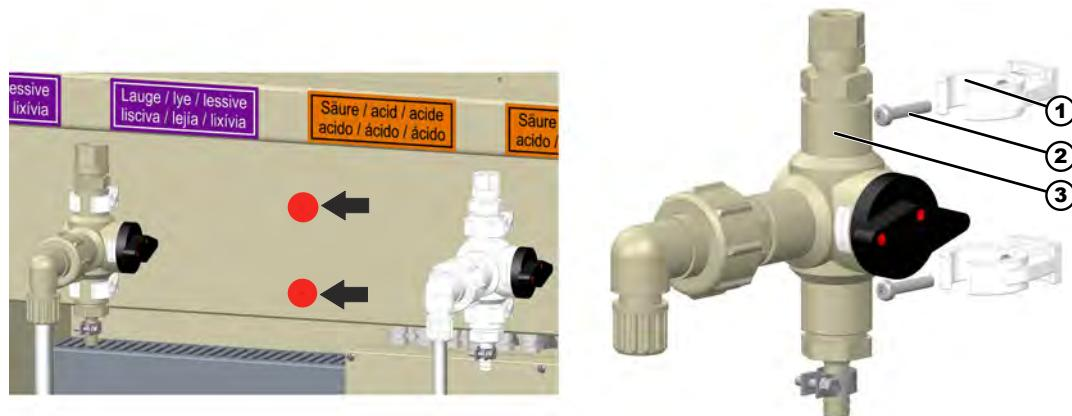

Fig. 11: Assembling the product sampling valve
1. Assemble both pipe clamps (no. 1) with screws (no. 2) in the intended position (Fig. 11, arrows) of the ELADOS Compact console.